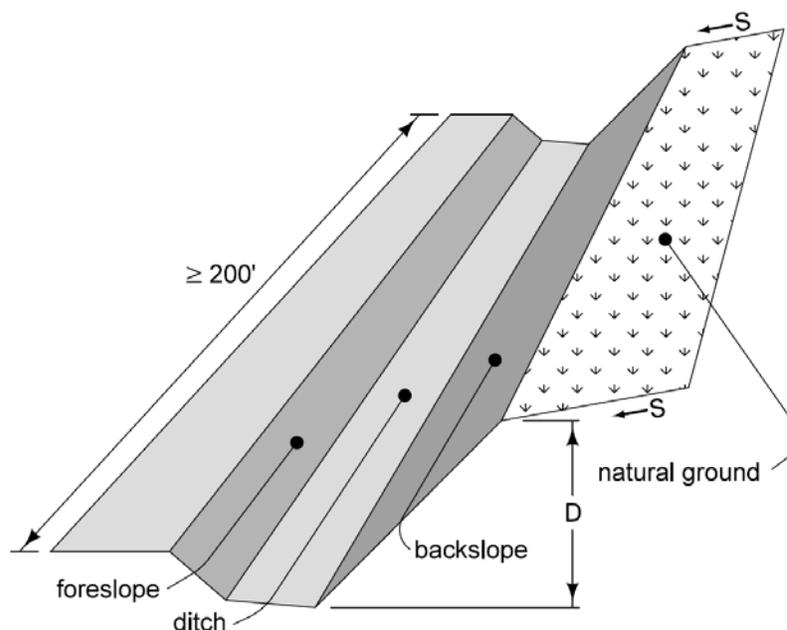

Figure 2: Roadway ditch.
1. When the backslope is less than 10 feet to the roadway ditch bottom (D in Figure 2), no intercepting ditch is needed.
2. When D in Figure 2 is 10 feet or more, but less than 15 feet for at least 200 feet, propose an intercepting ditch if the ground is sloping towards the backslope at 4% or greater.
3. When D in Figure 2 is 15 feet or more for at least 200 feet, propose an intercepting ditch anytime the ground slopes towards the backslope for a distance of 1/4 mile or more.
All intercepting ditches should be carried ahead or back until D in Figure 2 is less than 10 feet. The intercepting ditch should then end with a rip rap or erosion stone flume letdown into the roadway ditch. Road Design Detail 4101 provides construction details. Intercepting ditches should have a minimum of 8 inches of topsoil when available.